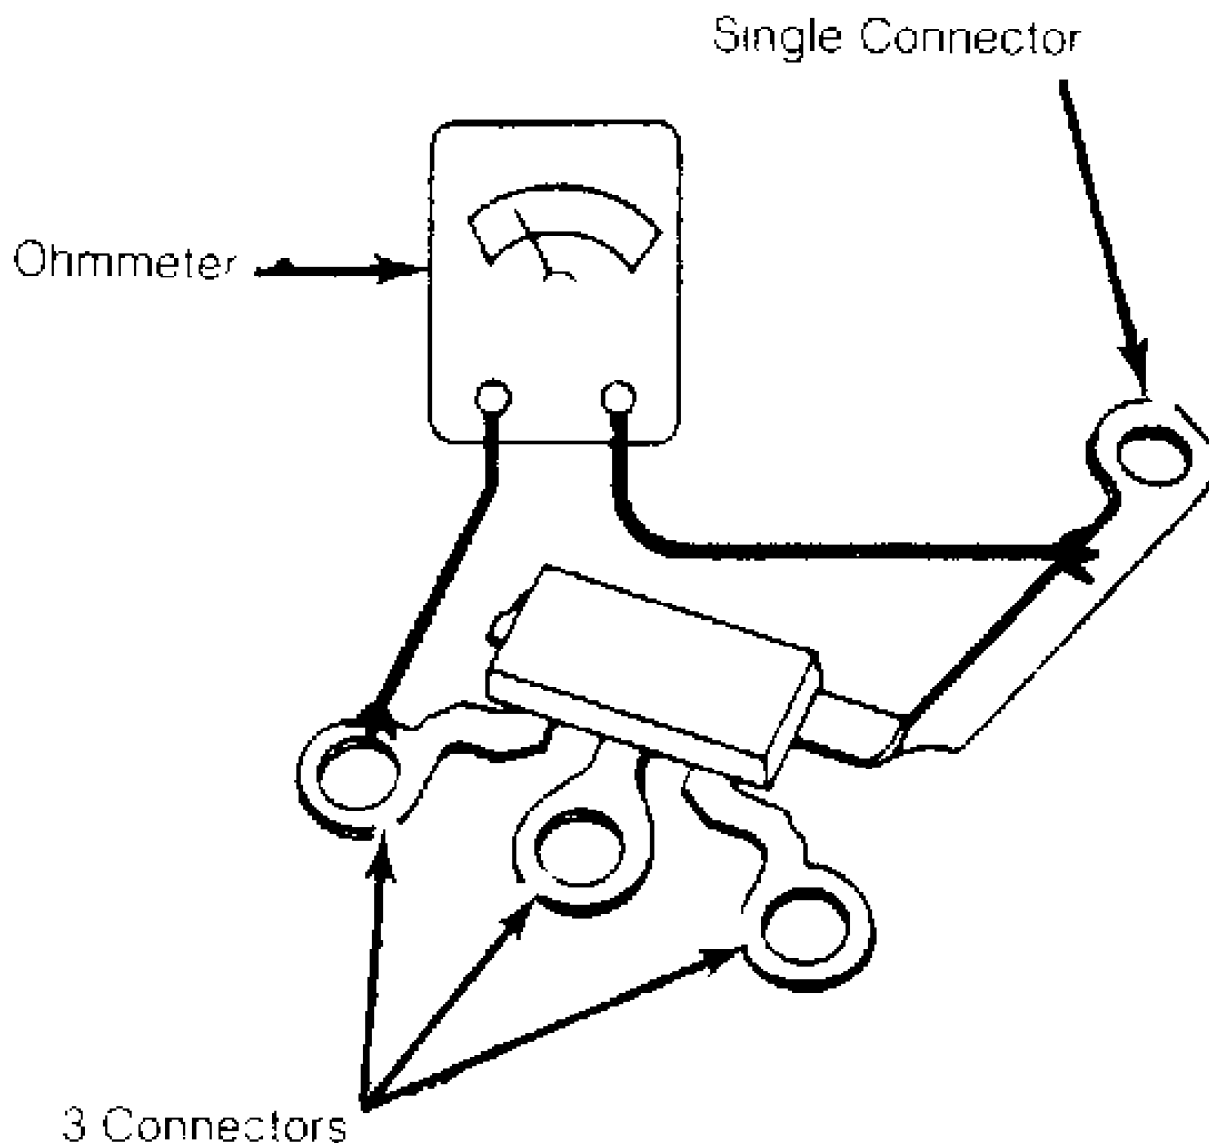

Fig. 4: Bench Testing Diode Trio
1) Remove diode trio from end frame. Connect an ohmmeter to single connector and to one of the 3 connectors. See Fig. 4. Note